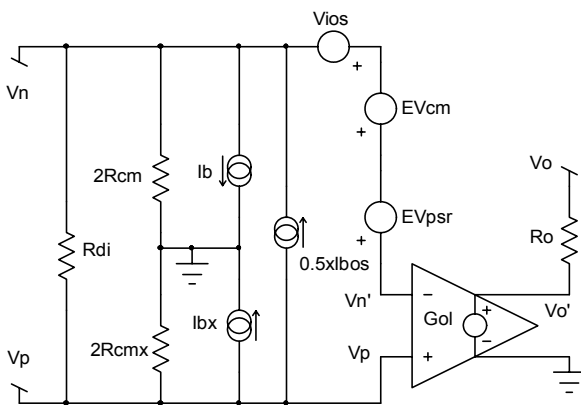

Figure 1
Figure 1 illustrates an Op Amp model used to identify those error parameters specified on data sheets. This model provides a first order approximation (FOA) of how these error parameters may affect application topologies. The "x" on parameters designates assumed equal values.
Definitions: Reference Figure 1
1. **Rdi** is the differential input resistance between positive and negative input terminals. It is typically large enough to neglect in most practical situations; however, its value should always be examined. Data sheets specify input resistance as the resistance seen at one input with the other grounded. This data sheet parameter is Rdi in parallel with 2Rcm in Figure 1 and is essentially Rdi.
Current sources in Figure 1 support these equations.
5. **Vios** (input offset voltage) is an internal IC device voltage error (referenced to the input) that relates output voltage for zero input. IC Op Amps have internal circuits that depend on matched devices. Perfect matching can not be achieved; therefore, a mismatch voltage error term exists as Vios in Figure 1. Note that an applied voltage equal to Vios between Vn, Vp such that the voltage between Vn', Vp is zero, forces the output to zero, neglecting all other error terms.
6. **PSRR**, power supply rejection ratio, is responsible for a voltage error term referenced to the input, which relates changes in output voltage for changes in the IC supply voltages. The error term  $EV_{PSR}$  in Figure 1 has a value of  $(PSRR * \Delta \text{supply voltage})$  for PSRRs given in data sheets as  $\mu V/V$ . PSRR may be given in dB for which  $EV_{psr}$  in Figure 1 is  $(\Delta \text{supply voltage} * 10^{-PSRR/20})$ .
7. **CMRR**, common mode rejection ratio, determines a voltage error term referenced to the input, which relates the output voltage to a common mode voltage ( $V_{cm}$ ) applied to both positive and negative inputs. Figure 1 shows this error term referenced to the input as  $EV_{cm}$ . Equation 3 illustrates how this error term is calculated.
The technique used in calculating impacts of error terms for a given application topology begins by using Figure 1 in a specific application topology and solving for the analytical output voltage ( $V_o$ ) expression using Eqn 4, which neglects  $R_o$ .
The output voltage error caused by an Op Amp's internal mismatch voltage error term Vios is shown in Eqn 6 for the topology of Figure 2, using the Op Amp error model in Figure 1.
Input currents Ip and In on both the positive and negative inputs flow through the DC Thevenin Resistance associated with each input and develop unwanted voltages, which are amplified by the application topology. Eqn 7 shows this error for the topology in Figure 2, using the error model in Figure 1 with Eqns 1, 2.
As previously discussed internal mismatches in the Op Amp cause output errors. Another example of this type error is the term EVcm, which is referenced to the input in Figure 1. The associated output error due to this term is shown in Eqn 8 for the topology in Figure 2.
Another error due to Op Amp internal mismatches is an output voltage change for changes in the power supply voltages. Figure 1 shows this error term referenced to the input as EVpsr. Equation 9 is the output error voltage for an Op Amp PSRR given in data sheets as μV/V.
Table 2 illustrates how error parameters in Figure 1 impact the total output voltage for the difference amplifier in Figure 2.
The above analysis of Figures 1,2 shows;
In calculating the overall gain for this topology, amplifiers  $G1$ ,  $G2$ , are assumed to be near ideal with  $G3$  an ideal unity gain amplifier. Specifically  $R_o$ ,  $R_{di}$ ,  $R_{cm}$ , and error parameters in Figure 1 are neglected. The output stage  $G3$  is typically the difference amplifier of Figure 2.